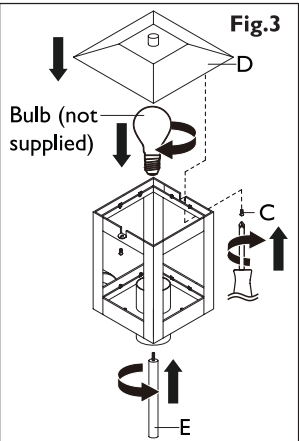

Fig.3
Fit the recommended bulb as per the details overleaf. To access the bulb, undo the 2 screws under the shade and keep safe for refitting later. Lift off the metal frame - ensure seal is in place around all 4 corners to ensure ingress protection. Screw the bulb into the lampholder. Refit the metal frame with the 2 screws set aside earlier. Screw the stem (E) onto the underside of the shade. See Fig. 3.